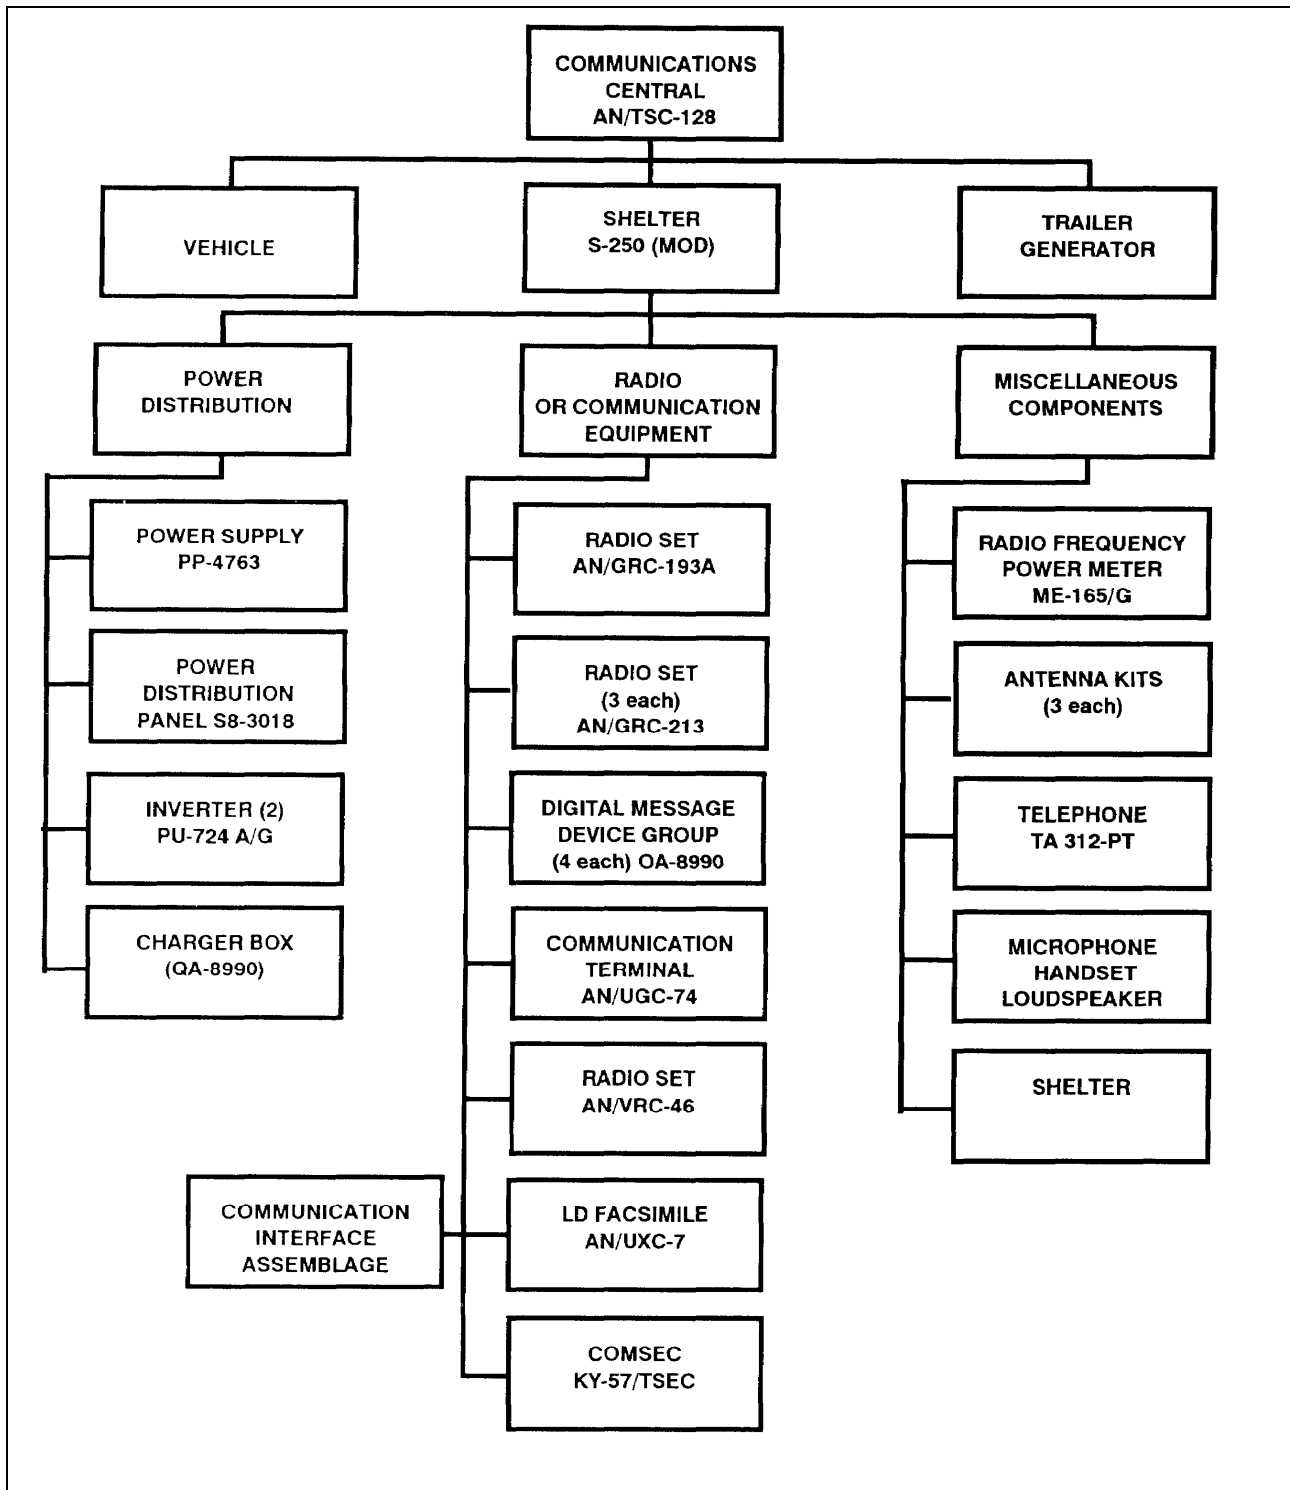

Figure D-16. Composition of AN/TSC-128.
i. **Communication Shelter, TSC-128.** Six TSC-128s are authorized per corps LRS and four per division LRS. The AN/TSC-128 is the principal component of the long-range surveillance base radio station. One base radio station is made up of two AN/TSC-128s. The LRSC has three base radio stations (six AN/TSC-128s). The LRSD has two base radio stations (four AN/TSC-128s). See Figure D-16, page D-22, for the composition of the AN/TSC-128.
(1) The AN/TSC-128 provides both reception and transmission capability for land-secure-burst data communication over extended ranges, using two identically configured AN/TSC-128 shelters with five or less antennas (three is the preferred number).
(2) The AN/TSC-128 provides continuity during operations to include maintenance periods. Continuity is required during corps and division displacement. Continuity is achieved by using two shelters.
(3) The AN/TSC-128 receives and records at least 2 messages simultaneously, and it can process a minimum of 18 messages in one hour. It allows selective retransmission of messages to the corps or division tactical operations center over the local or wide area communication system.
(4) The AN/TSC-128 provides informal record traffic to be originated and terminated by the LRSU base radio station and communicated to the TOC support element and the MI battalion headquarters.